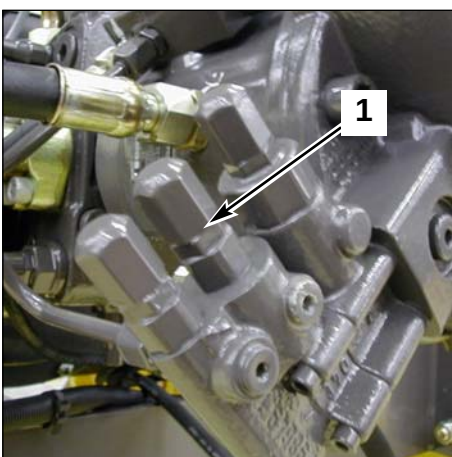

Fig. 3 Equipment pump
- 5- Loosen the lock nut and turn the screw (1 fig. 3) clockwise in order to increase the ΔP .